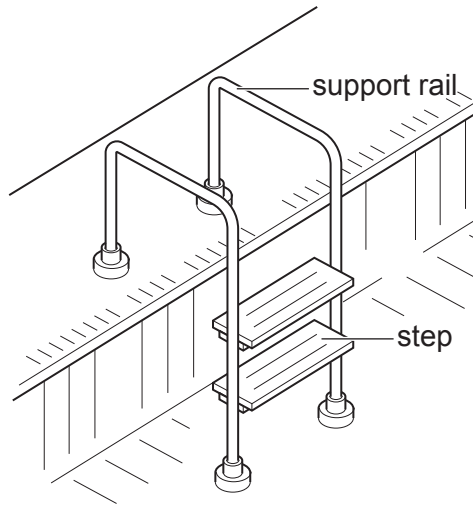

Fig. 1.1
- 1 Fig. 1.1 shows a set of steps used in a swimming pool.